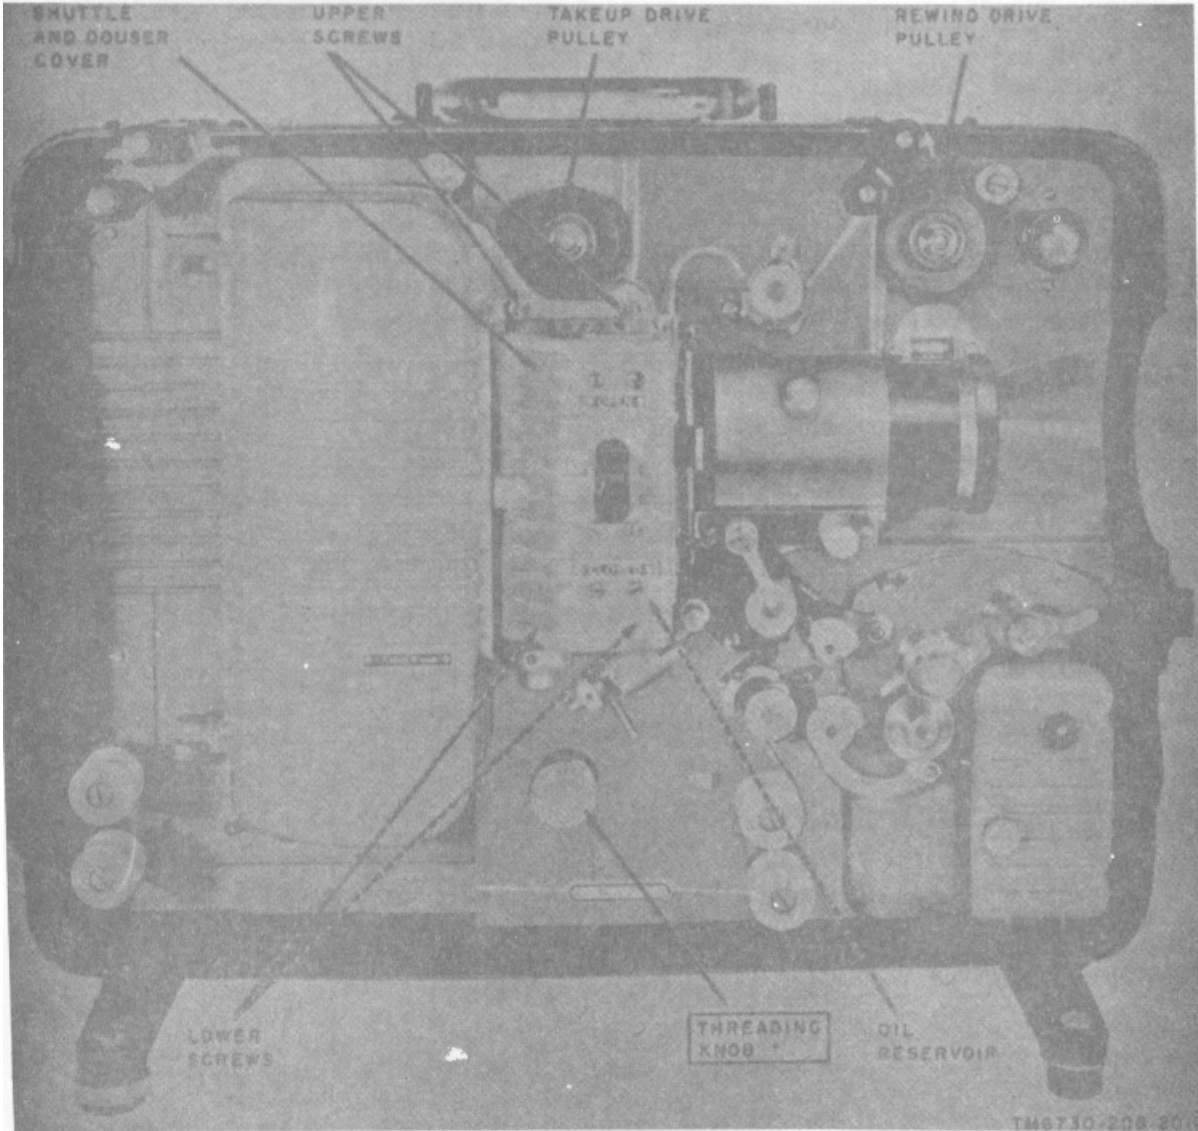

Figure 2. Projector, side view.
14	If equipment in excessively noisy or if a loud clicking noise is heard, shut down the equipment. Turn the THREADING KNOB (fig. 2) by hand and observe whether the shuttle is hitting the aperture plate or the pressure plate. Check seating of the aperture and the pressure plate.
(fig. 2)
- (1) Damaged lens surfaces.
- (2) Improper action of operating controls.
- (3) Defective cables.
- (4) Loose or missing screws.
- (5) Missing or broken parts.
b. THREADING KNOB. Turn the THREADING KNOB (fig. 2) by hand and note the action of the shuttle. Note any unusual noises of the mechanism or binding of the THREADING KNOB.